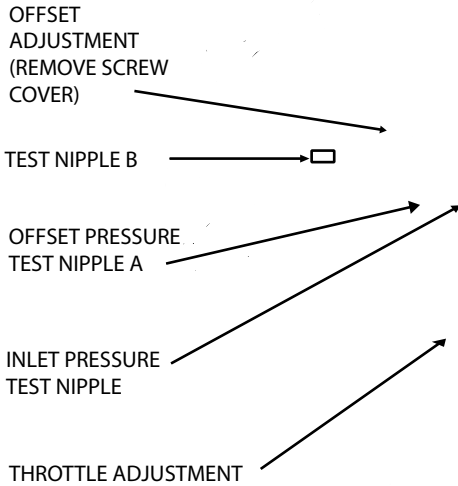
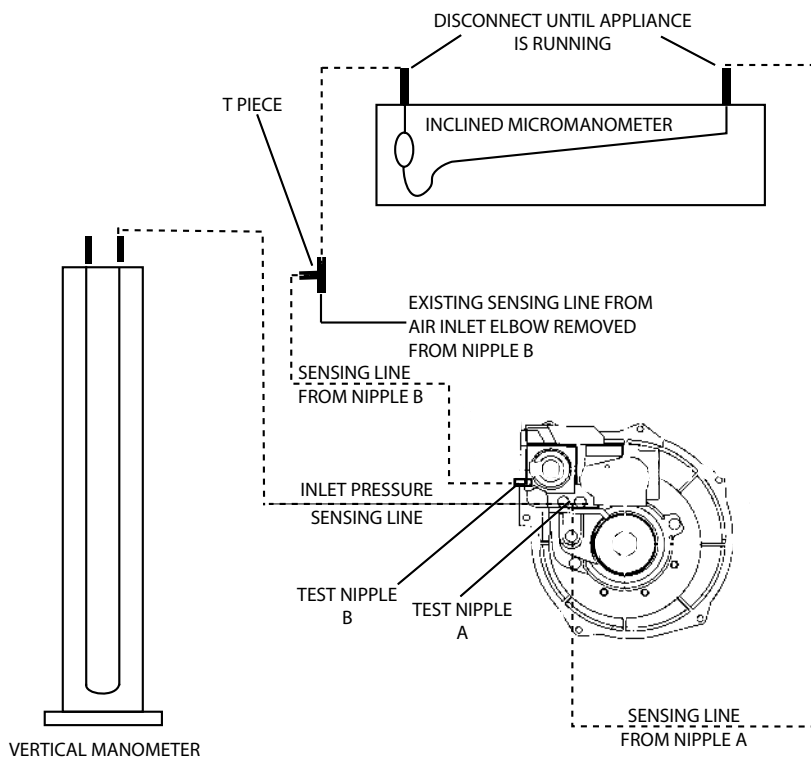

Figure 25 Honeywell MFC and Venturi Sub-Assembly (Refer to Figure 43 also)
Figure 26
Refer to figures 25 and 26.
- Turn off the electrical supply and gas supply. Ensure manometers are set to zero refer to Figure 25 and Figure 26.